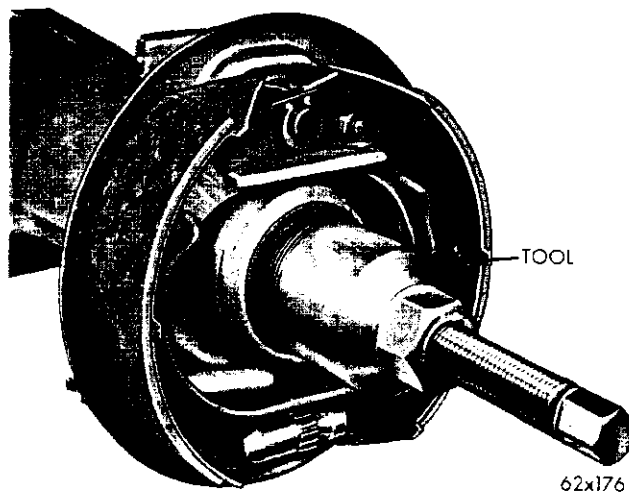

Fig. 36—Removing Output Shaft Oil Seal
(3) Remove the brake support grease shield spring and grease shield. Be careful not to damage the neoprene insulator.
(4) Screw the taper threaded end of Tool C-748 into the seal (Fig. 36), then tighten screw of tool to remove the seal.